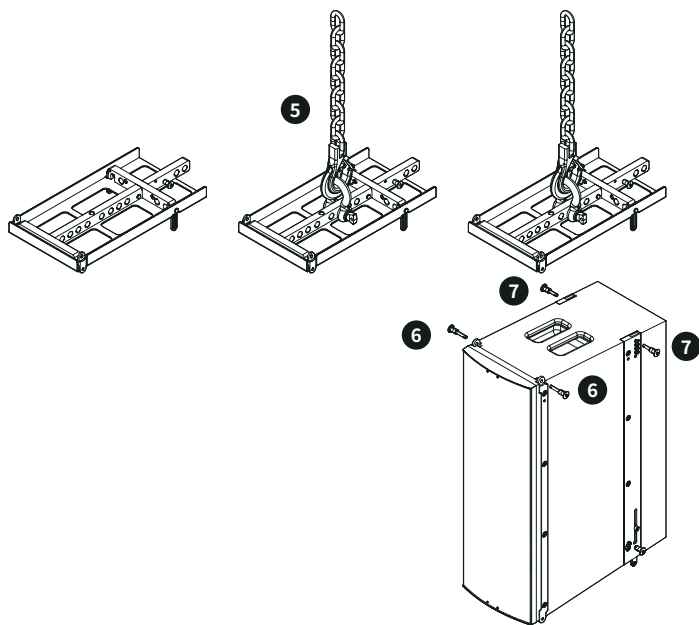

Figure 16. Attaching the M-F3A FS subwoofer to the M-F3A FS BF frame.
5. Connect the M-F3A FS BF bumper frame to the hoist chain/s using appropriate shackle/s in the hole/s selected for the desired tilting. See figure 16.
7. Lock the upper rear part of the subwoofer by fastening the top security pins with the rear releasable bars of the M-3A FS BF bumper frame. See figure 16.